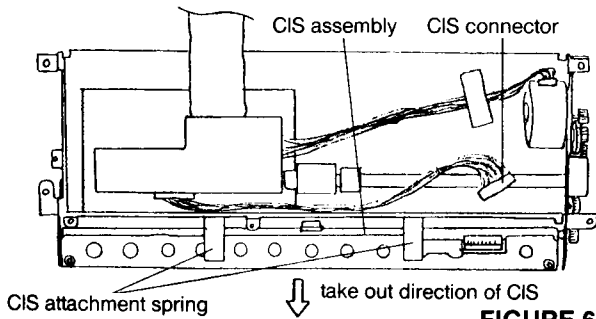

FIGURE 6-11
- d) Remove the CIS assembly. (See figure 6-11)